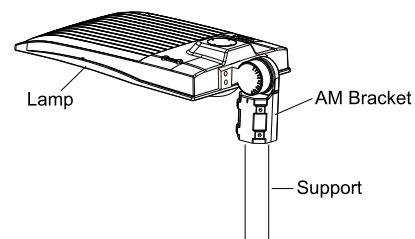

Figure 2
Step 2: Place the bracket into the pole and lock the four bolts.(Figure 2)